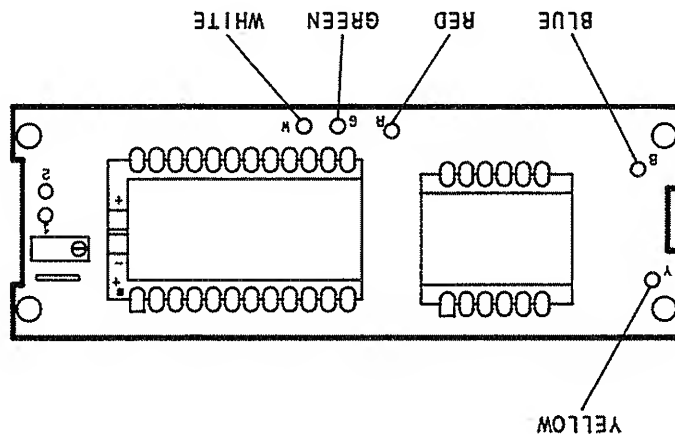

Figure 3. Circuit Board Power Supply Check Points.
- Check the power supply voltages shown in Figure 3. Because +15V and -12.6V are supplied by the analyzer, these voltages are specified in the analyzer manual. The +8V should be $+8.3 \pm 0.5V$; the -5V should be $-5 \pm 0.5V$.